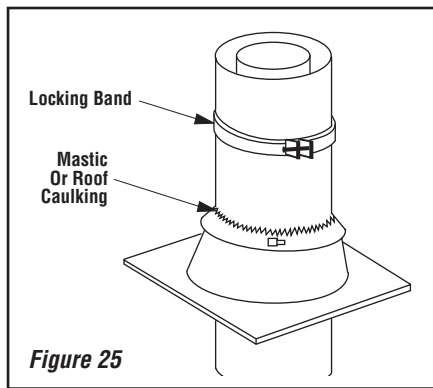

Figure 25
Step 8. The standard Security Chimneys FTF8 roof flashing assemblies include a storm collar. Slide the storm collar over outer chimney, rest on flashing spacers and align with top surface of flashing. Insert tab in slot, pull tight and bend tab back over slot. Seal storm collar to outer chimney with roof caulking or mastic around entire circumference of pipe. Also add extra roof caulking to the tab/slot area to seal completely against water penetration (**Figure 25**). Check all joints very carefully to ensure no water intrusion can take place.
Step 9. FTF locking bands, Model FLB, may be required if the chimney extends too high above the roof flashing. As a general rule, if the chimney extends more than 6' above the roof flashing, the use of locking bands is advisable to strengthen the chimney assembly. Align the locking band at the chimney joint. Locking bands wrap around pipe joints equally covering the joints of both pipe sections. Use the nut provided and TIGHTEN snugly. Do not overtighten as this might damage the chimney section (refer to **Figure 25**).